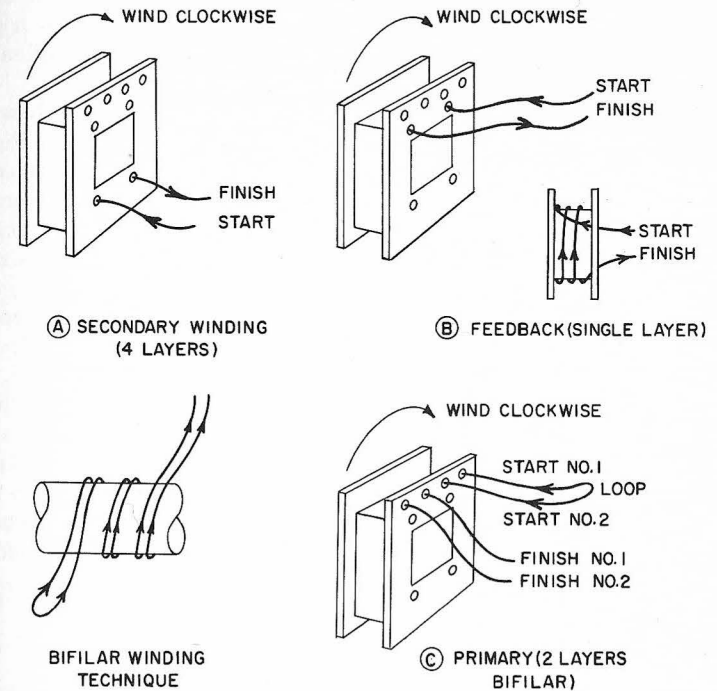

Figure A5.4 Transformer bobbin winding instructions
2. Wind 140 turns of No. 30 AWG G-E Formvar (or equivalent) insulated wire in *four complete layers only*, starting and finishing as shown in Figure A5.4(a). Insulate the completed secondary winding with *one layer* of 1 mil mylar bound tightly around the top layer of the coil.
3. The nine-turn feedback winding goes on next. Starting and finishing as shown in Figure A5.4(b), wind on nine turns (actually $8\frac{3}{4}$ turns) of No. 30 Awg G-E Formvar (or equivalent) insulated wire in *one layer only*.
4. Take a six-foot length of No. 20 Awg G-E Formvar (or equivalent) wire and double it in two. Insert each free end into the bobbin as shown in Figure A5.4(c), leaving a 3-inch long loop protruding from the bobbin. Take the free ends of this wire together and wind both
ends simultaneously (side by side) nine times (actually $8\frac{3}{4}$ times) in two layers around the bobbin, finishing as shown in Figure A5.4(c). This procedure is called "Bifilar" winding, and is done to achieve maximum coupling between the two separate halves of the primary. Finish off the bobbin by tightly wrapping two or three layers of Mylar tape around the completed primary windings. Cut the loop at the start of the primary winding and identify the start and finish of each half winding for wiring purposes. An ohmmeter is useful for this purpose.